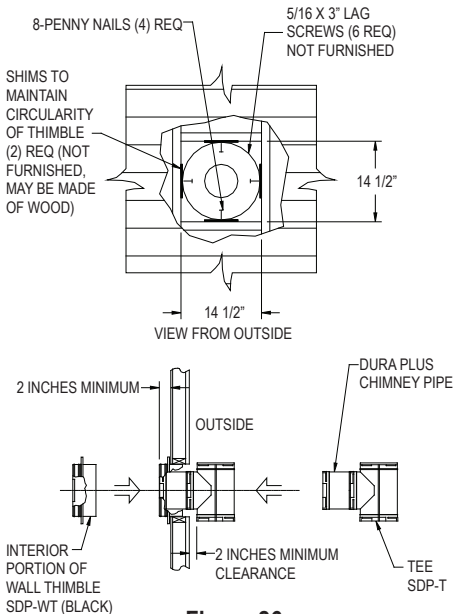

Figure 26
3. Install Wall Thimble: Insert the black section of the Wall Thimble into the opening in the wall from inside the room, and align the nail holes with the studs. **(Figure 26).** Do not nail the black thimble section at this time. Attach the Tee to a 9-inch or 12-inch Chimney Section by twisting until it is firmly locked. If the wall is less than 6 inches thick, use a 9-inch Chimney Section; if the wall is between 6 and 9 inches thick, use a 12-inch Chimney Section. From outside the building, insert the Chimney Section into the hole until the vertical part of the Tee is 2 inches away from the outside of the wall, and the black portion of the Wall Thimble and the Chimney Section protrude into the room at least 2 inches. ***IMPORTANT: In order to make a safe connection, the female end of the Chimney Section must fully contact the inside face of the Wall Thimble.*** Remove the